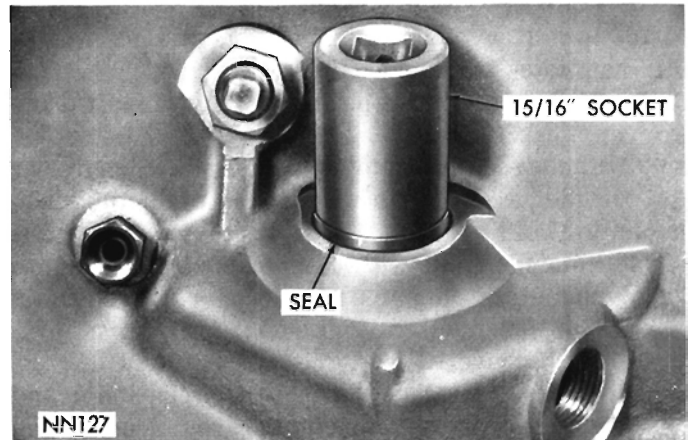

Fig. 37—Installing Valve Body Manual Lever Shaft Oil Seal
- (8) Withdraw accumulator piston from the transmission case. Inspect piston for scoring, and rings for wear or breakage. Replace as required.
- (9) If valve body manual lever shaft seal requires replacement, drive it out of the case with a punch.
- (10) Drive a new seal into the case with a 15/16 inch socket and hammer (Fig. 37).